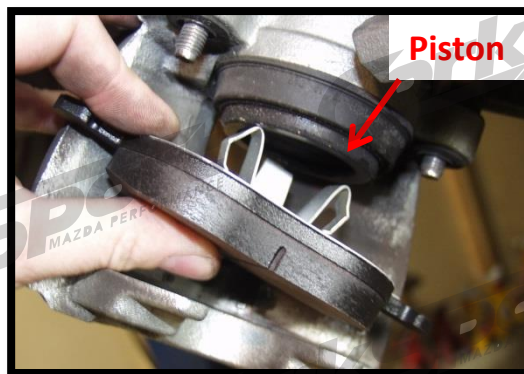

Figure 2a
- j) Remove the spreader tool, and free the inner pad from the caliper by pulling it out of the piston (Figure 2a).
- a) Install the inner pad into the caliper by pressing it into the piston (Figure 2a).
- a) Discard the old brake pads, and install the inner pad into the caliper by pressing it by hand into the piston (Figure 2a).